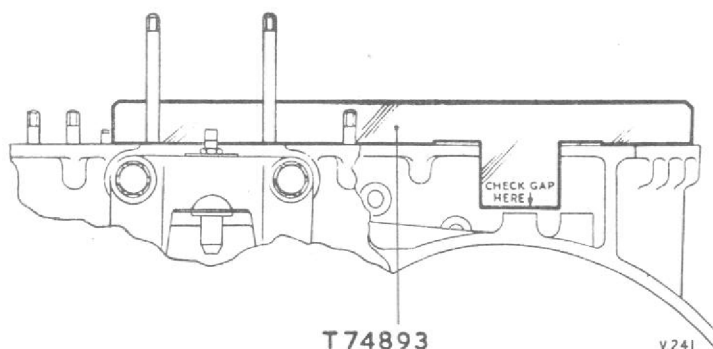

Fig. 5. Checking the height of the gear bosses
- (3) Check the height of the four gear bosses in the top wheelcase aperture with gauge T74893 (fig. 5). Using feeler gauges, check the gap between the gauge and each gear boss, which must be within the limits of 0.002 in. to 0.018 in. When Mod. No. 893 is embodied, this check must be made with the steel plugs in position in the bosses; these plugs are screwed into the bosses and will not normally be removed during reconditioning.
- (4) Assemble the four protection plates over the air bleed apertures and secure them with eight new tab-washers (Part No. N4551) and $\frac{1}{4}$ in. B.S.F. nuts; lock the nuts.
- (5) Assemble the upper drive gear assembly to the air-intake and secure it with four new tab-washers (Part No. AGS518E) and $\frac{1}{4}$ in. B.S.F. nuts; lock the nuts.
- (6) Assemble a new sealing ring (Part No. N4606) over the hollow dowel in the centre boss of the air-intake.
- (7) Position a new sealing strip (Part No. 46133) in the groove of the top wheelcase face.